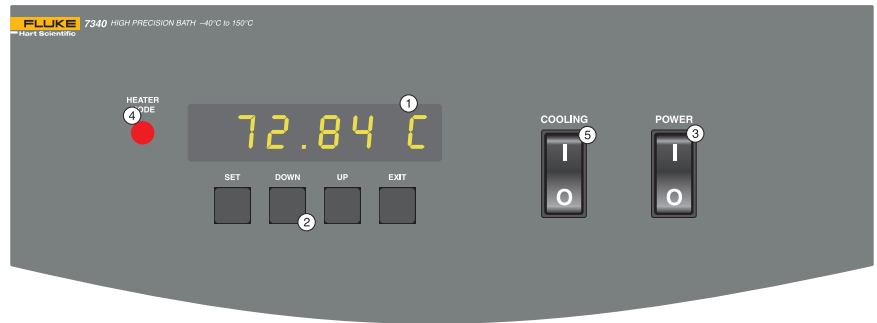

Figure 3 Front Panel
The following controls and indicators are present on the controller front panel (see Figure 3 below): (1) the digital LED display, (2) the control buttons, (3) the bath on/off power switch, (4) the control indicator light, and (5) the cooling on/off switch.